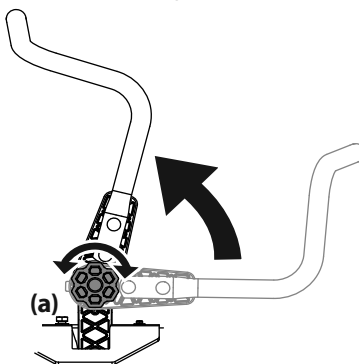

Figure 10
1. Rotate the knob (a) counter-clockwise to loosen the knob (a). See Figure 10.
3. Rotate the knob clockwise to secure the lapbar drive control lever into position. See Figure 10.